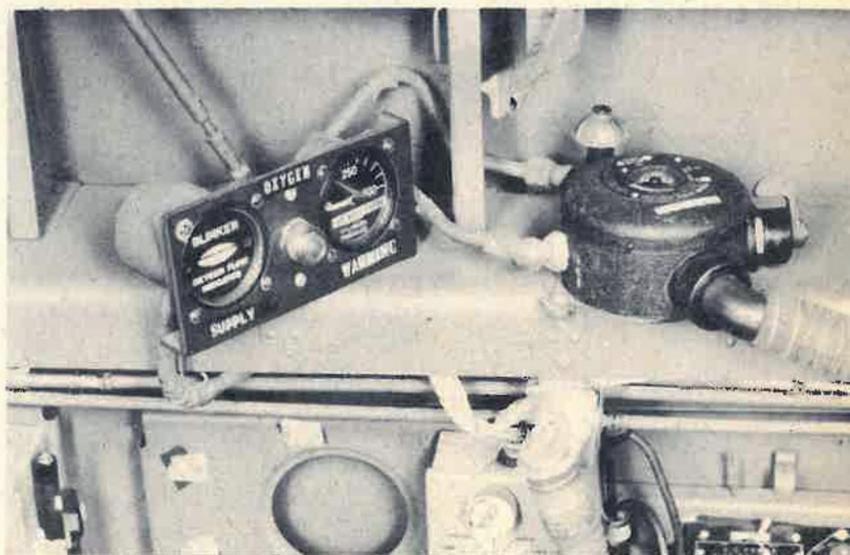

Figure 34 — Oxygen Control Unit
4. OXYGEN EQUIPMENT. (Fig. 34)